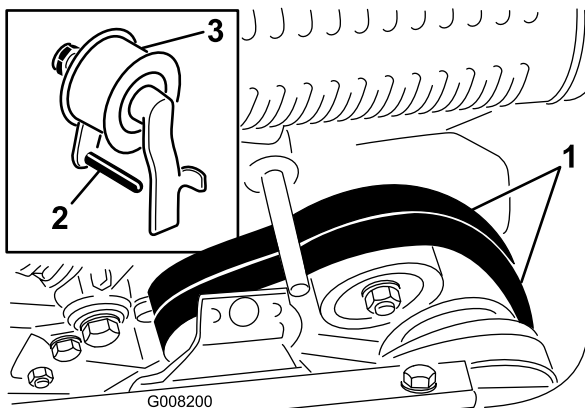

Figure 39
8. To push or pull the machine easier without starting the engine, adjust the belt guide (Figure 39, inset) as follows: